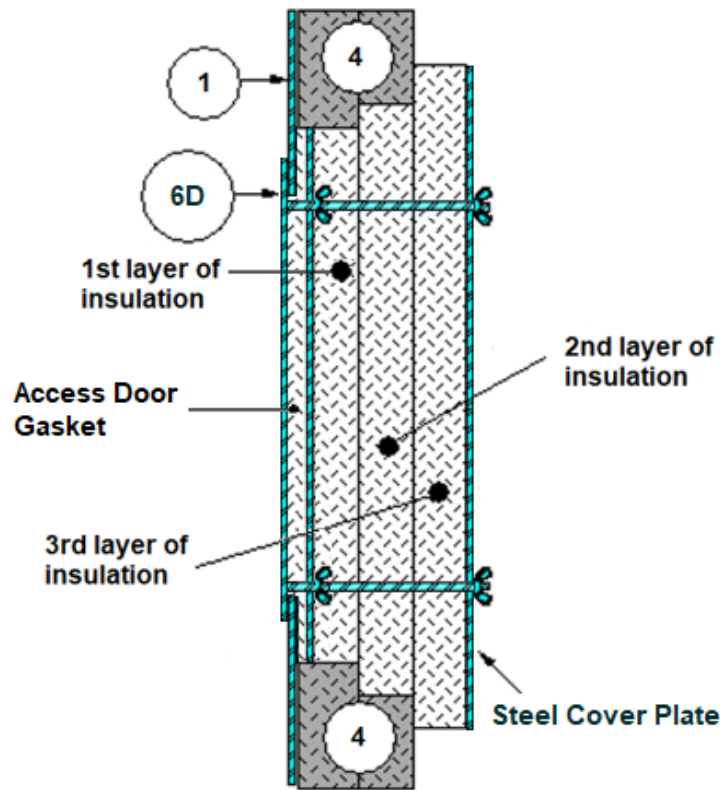

Figure 5 – Field-Fabricated Access Door with Cover Plate
D. FIELD-FABRICATED ACCESS DOOR WITH COVER PLATE: See Figure 5. Install a max.